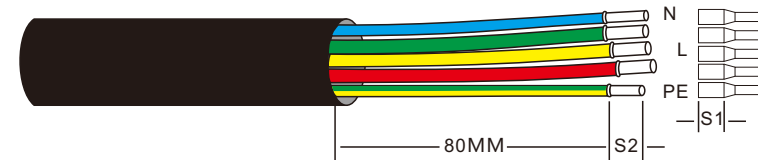

Figure 5.17 Strip AC cable
1. Strip the end of AC cable insulating jacket about 80mm then strip the end of each wire. (as shown in figure 5.17)